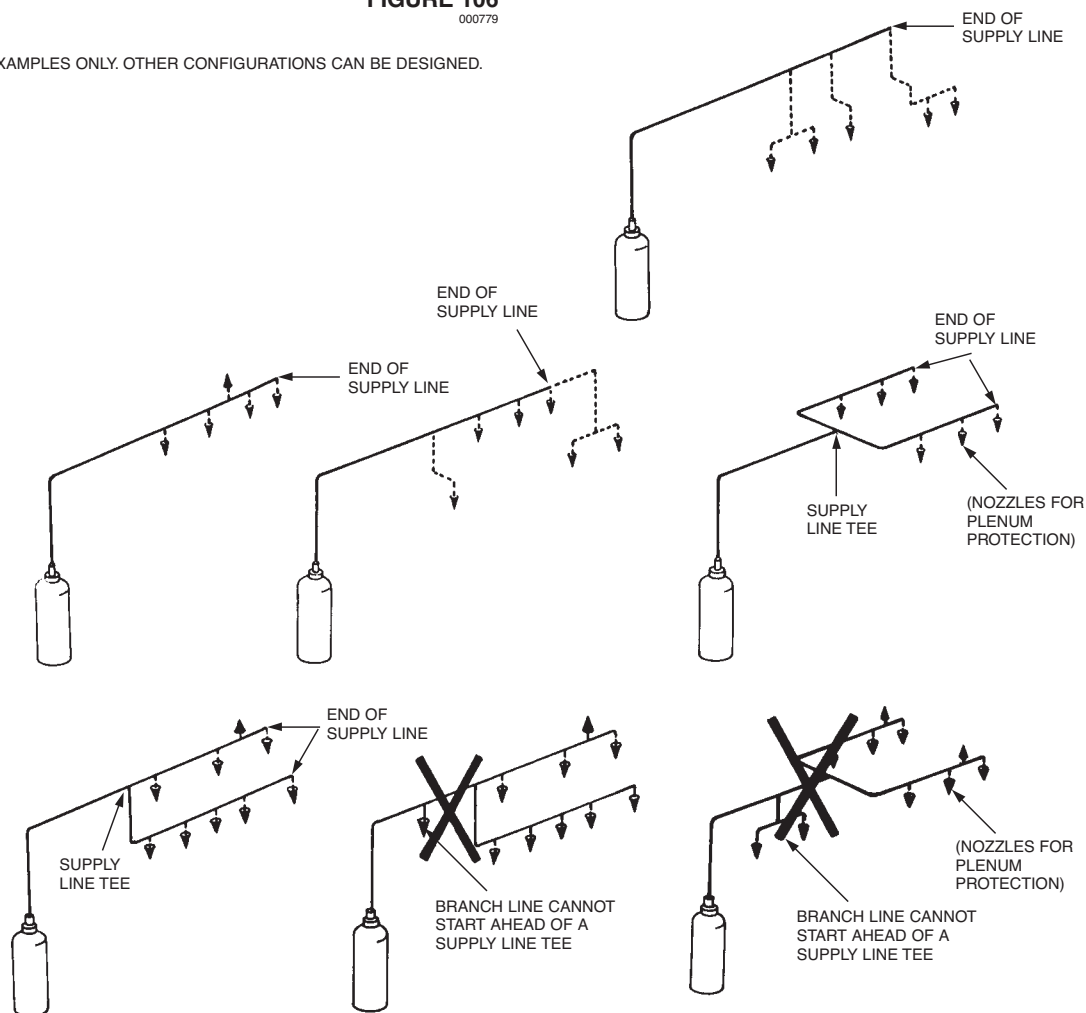

FIGURE 107
► See Figures 107 and 108.
The Appliance Branch Line is defined as the length of pipe which runs from the supply line to the appliance nozzle(s). This includes all branch line fittings as well as the tee or elbow used to start the branch line. See Figures 107 and 110.